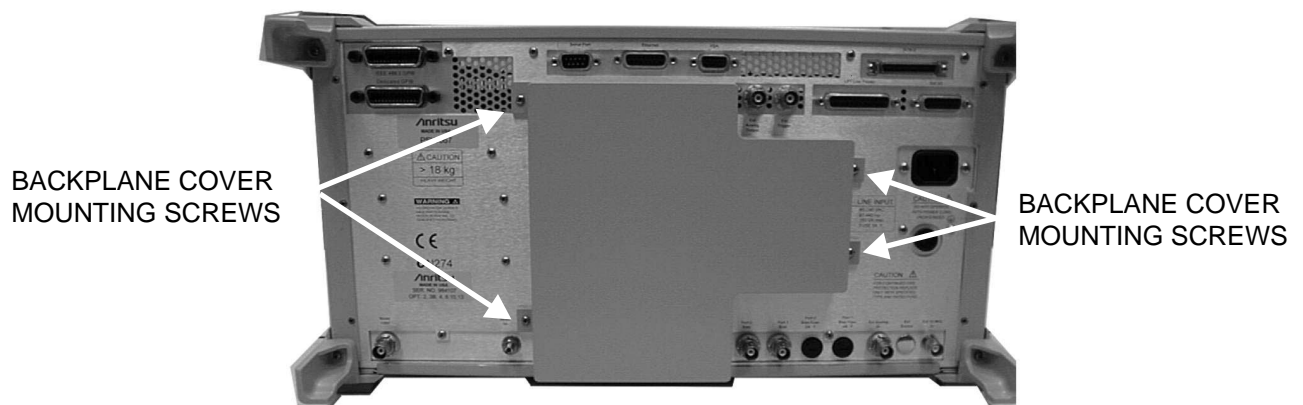

Figure 7-15. Backplane PCB Cover
4. Remove the backplane PCB cover that is mounted to the rear panel by four screws (Figure 7-15).